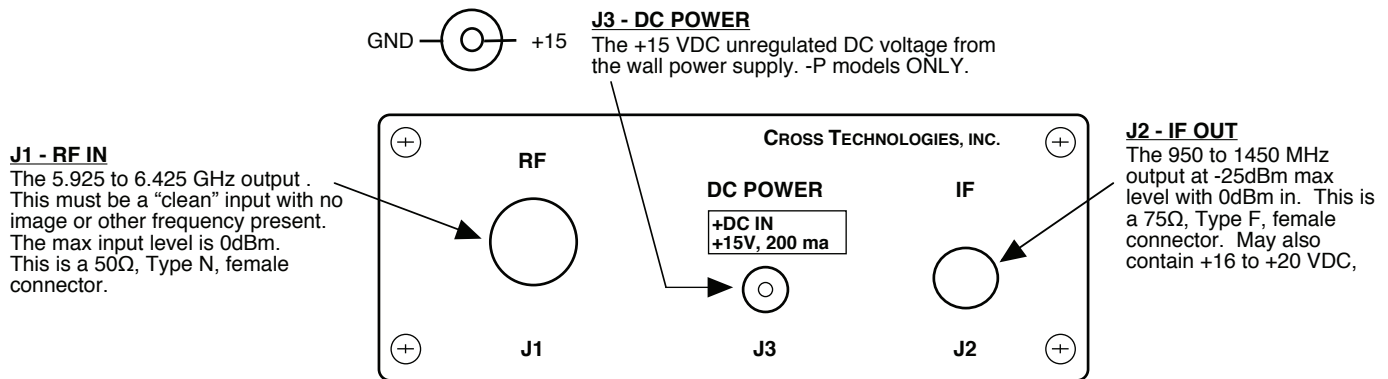

FIGURE 2.3 Model 2009-59 Rear Panel Inputs and Outputs
Figure 2.3 shows the input and output signals to the 2009-59.
1. For -P models, connect one end of the Wall Power Supply to the 2009-59 DC Power In, J3, and the other end to 115 VAC, 60 Hz (Figure 2.3).
2. Connect a +15 dBm, maximum, signal to RF IN, J1 (Figure 2.3).
3. Connect the IF OUT, J2, to the receiver under test (For models powered from the LNB be sure that the LNB voltage is +16 to +20 VDC, 280 ma) (Figure 2.3).